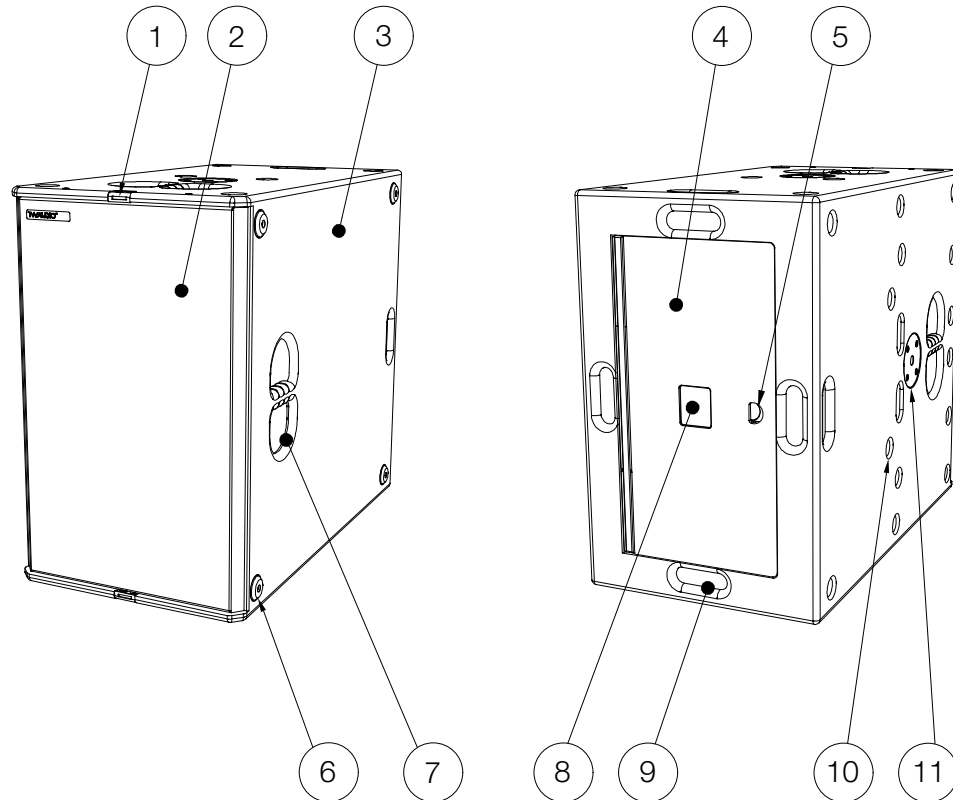

Figure 2.1 - Overview
Make sure that the maximum load of 50kg / 110lbs for the M20 pole mount flange is not exceeded! Figure 2.1 – Item 11.
The M20 pole mount flange (figure 2.1- item 11) is not designed for side forces once mounted – do not apply any pressure from the sides.
Please note that only centered loads are allowed to be placed on the M20 pole mount flange – Figure 2.1 – Item 11.